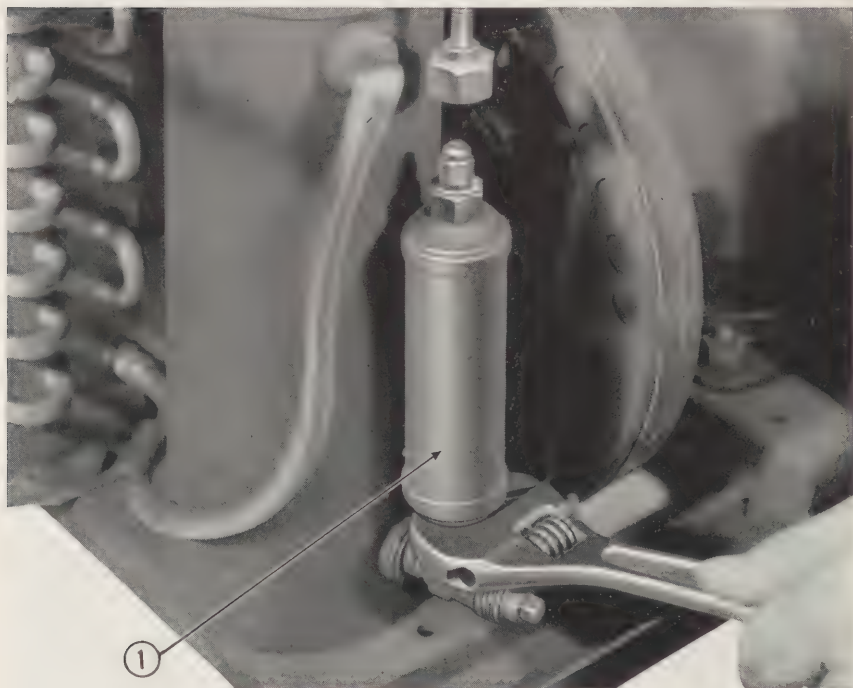

Figure 24. Removing the dehydrator.
- (1) Should moisture freeze in the expansion valve restricting the flow of refrigerant, it may be necessary to apply heat to the expansion valve intermittently until the moisture that is causing the trouble has been carried throughout the system in its normal cycle, and returned to the dehydrator where it will be absorbed.
- (2) Should the system be exposed to more moisture than the capacity of the dehydrator is capable of absorbing, it will be necessary to replace the dehydrator.
**NOTE: UNDER EXTREME MOISTURE CONDITIONS IT MAY BE NECESSARY TO REPLACE THE DEHYDRATOR (FIG 24) MORE THAN ONCE TO THOROUGHLY FREE THE SYSTEM FROM MOISTURE.**
- (1) Pump down the system. (See par 41.)
- (2) Remove the liquid line from the top of the dehydrator by unscrewing the  $\frac{1}{4}$  inch flare nut.
- (3) Remove the dehydrator from the liquid receiver valve by unscrewing the dehydrator with a wrench (fig 24).
- (4) Screw on new dehydrator to the liquid receiver valve making certain that the copper washer is inserted in the female fitting of the dehydrator to form a gas tight connection.
- (5) Reconnect the liquid line  $\frac{1}{4}$  inch flare nut to the male fitting on top of the dehydrator.
- (6) Purge the low side of the refrigeration system. (See par 43 b.)
- (7) Test for leaks. (See par 40.)